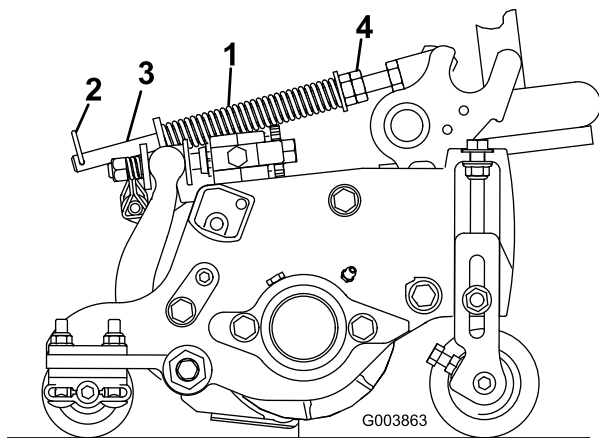

Figure 16
The turf compensation spring (Figure 16) transfers weight from the front to the rear roller. (This helps to reduce a wave pattern in the turf, also known as marcelling or bobbing.)
1. Make sure the hairpin cotter is installed in the rear hole in the spring rod (Figure 16).
2. Tighten the hex nuts on the front end of the spring rod until the compressed length of the spring is 6.25 inches (15.9 cm) (Figure 16).